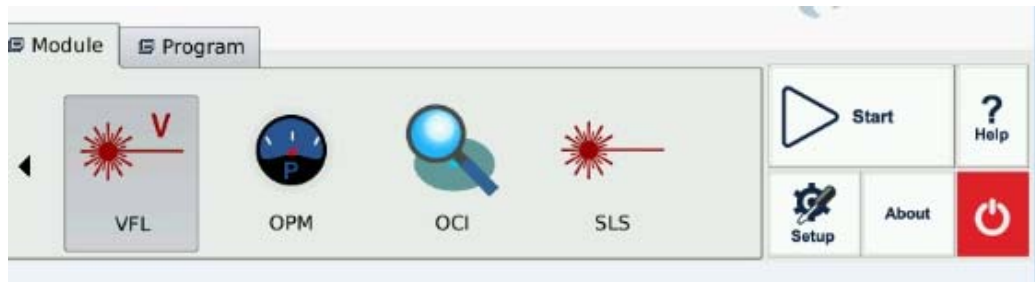

Fig. 18.1 Optical Connector Inspector Interface
3. Click "OCI" icon to enter Optical Connector Inspector interface as shown in Fig 18.1.